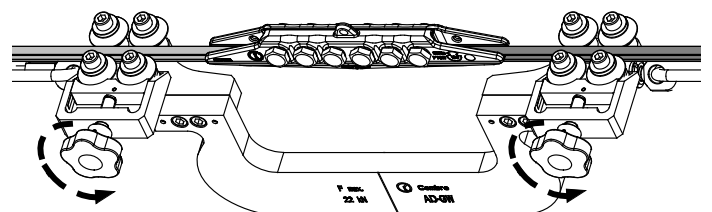

FIG. 10
- 9** (Ref. fig. 10) Release Tirfor traction, unscrew knobs to release the device from the joint area, then detach hooks to completely remove the device.